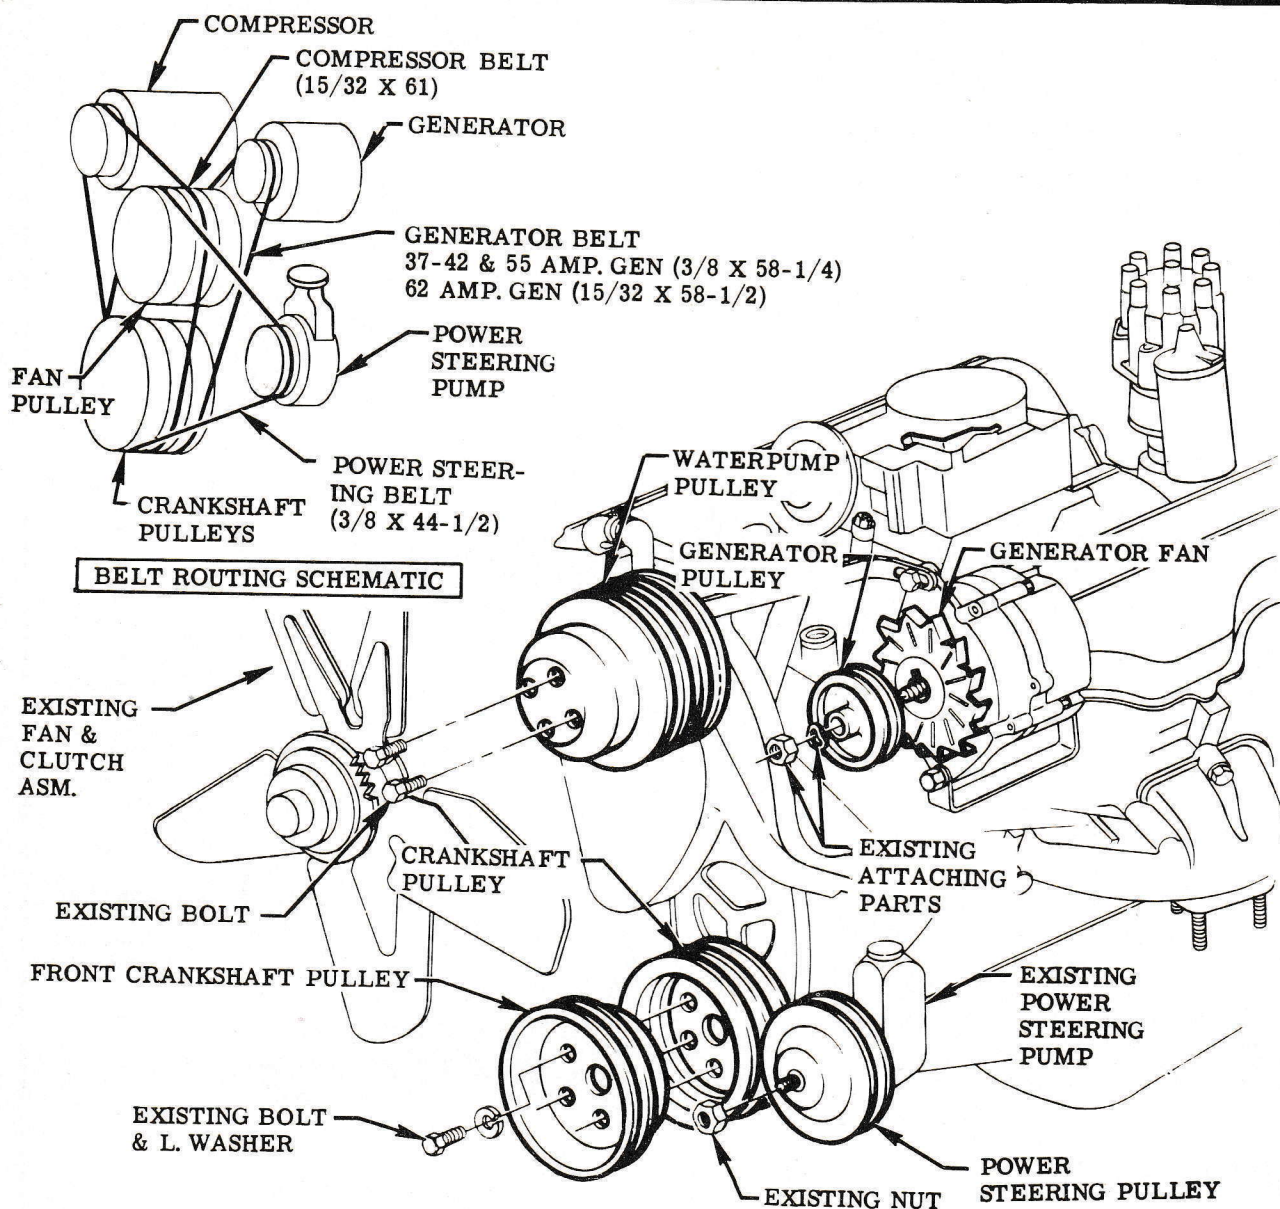

FIG. 1 FAN, BELTS & PULLEYS ("409" ENGINE WITH POWER STEERING)
STEP 5 INSTALL PROVIDED GENERATOR BELT ON REAR PULLEYS & PROVIDED COMPRESSOR BELT ON FORWARD PULLEYS. SEE SCHEMATIC IN FIG. 1. **NOTE** Adjust compressor on support until belt is tight, then secure nuts at pivot bolt & clamping bolt. SEE COMPRESSOR MOUNTING SHEET.